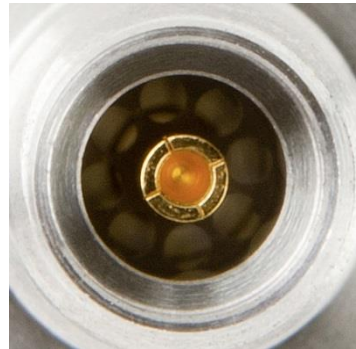

Fig. 4-1: Good condition 3.5 mm female
- The contacts within the female socket are high precision and must be treated with great care. Check that all contacts are present, uniformly aligned and undamaged as shown in Fig. 4-1.